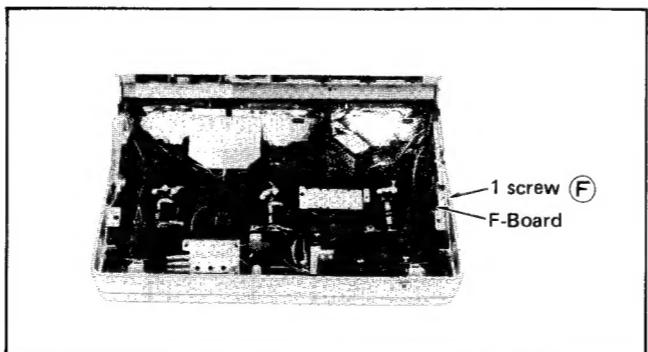

Fig. 7
- Remove a 1 screw **(F)** in fig. 7, then open the F-Board.